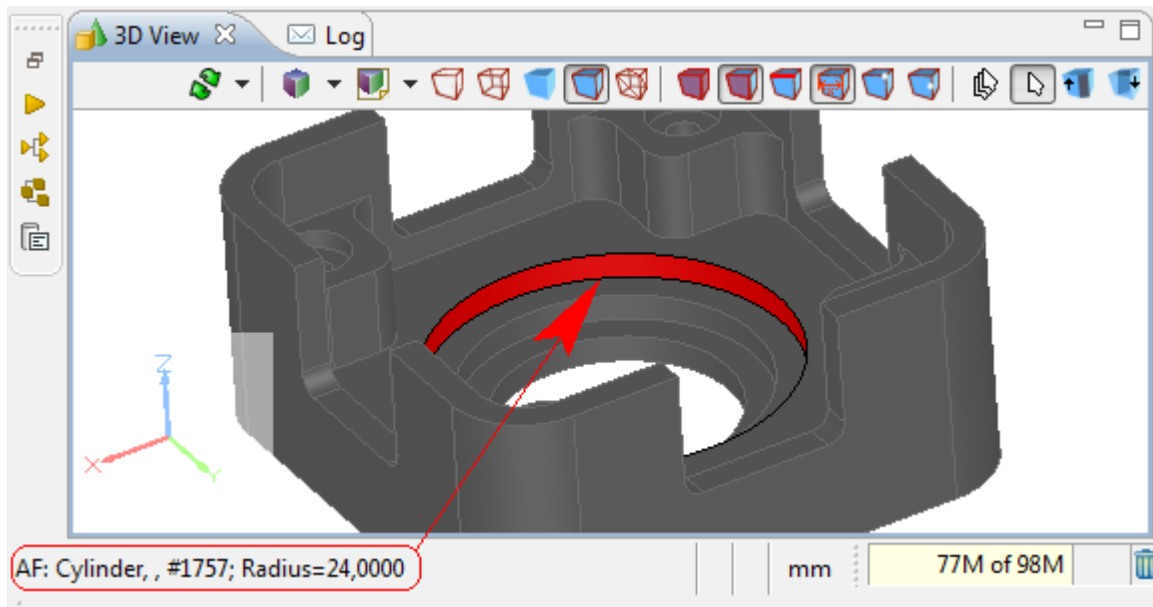

Figure 11. Converted surface
- Select the same surface in the **3D View**. The current surface type with available data (i.e hash number and radius) is displayed in the left bottom corner of the page (see Figure 11).